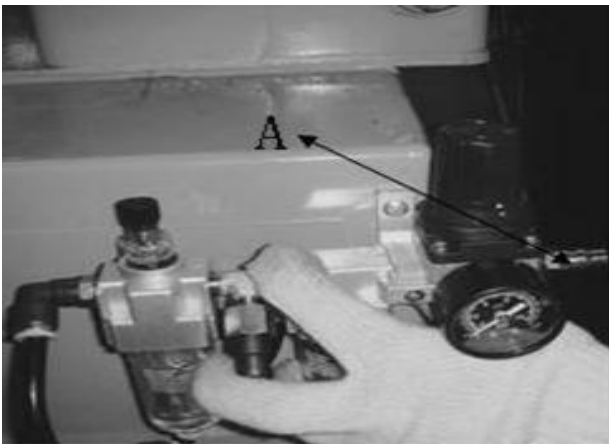
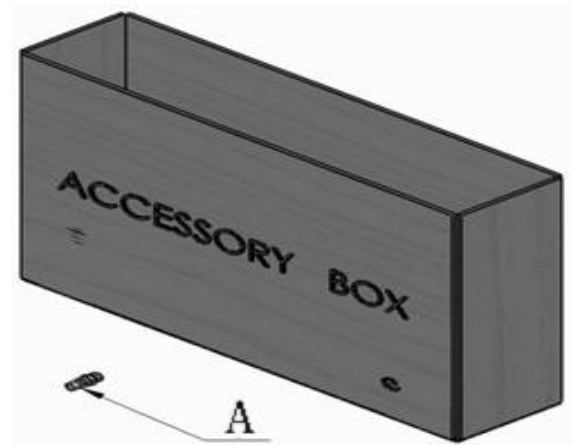

Fig 4-13
Fig 4-14
4.2.3 First take out the air source connect (Fig4-14 A) from the accessory box. Insert the connect at the outlet of the air source (Fig4-13 A). After installation, insert the air source quick insert into the air source connect.